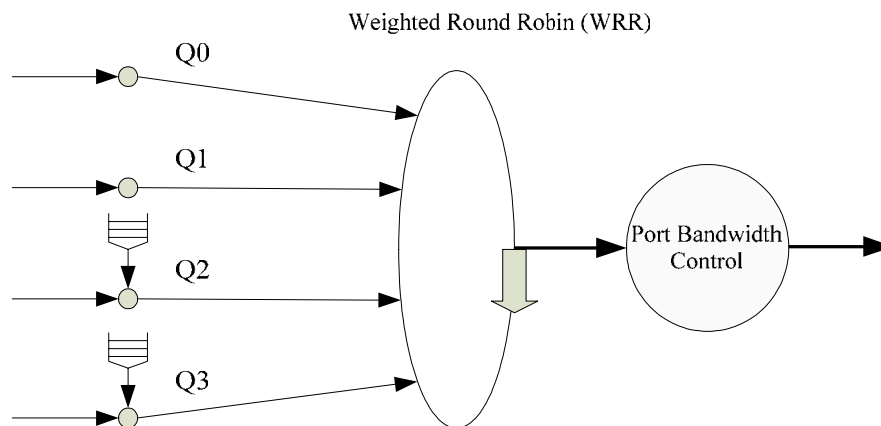

Figure 16. RTL8306SD/RTL8306SDM Packet Scheduling Diagram
- Type I leaky bucket, which specifies the average rate of one queue (see Figure 16; only Q2 and Q3 have leaky bucket, Q0 and Q1 do not)
In addition, the RTL8306SD/RTL8306SDM can select one of the two sets of packet scheduling configurations according to the packet scheduling mode. Figure 16 shows the RTL8306SD/RTL8306SDM packet scheduling block diagram.